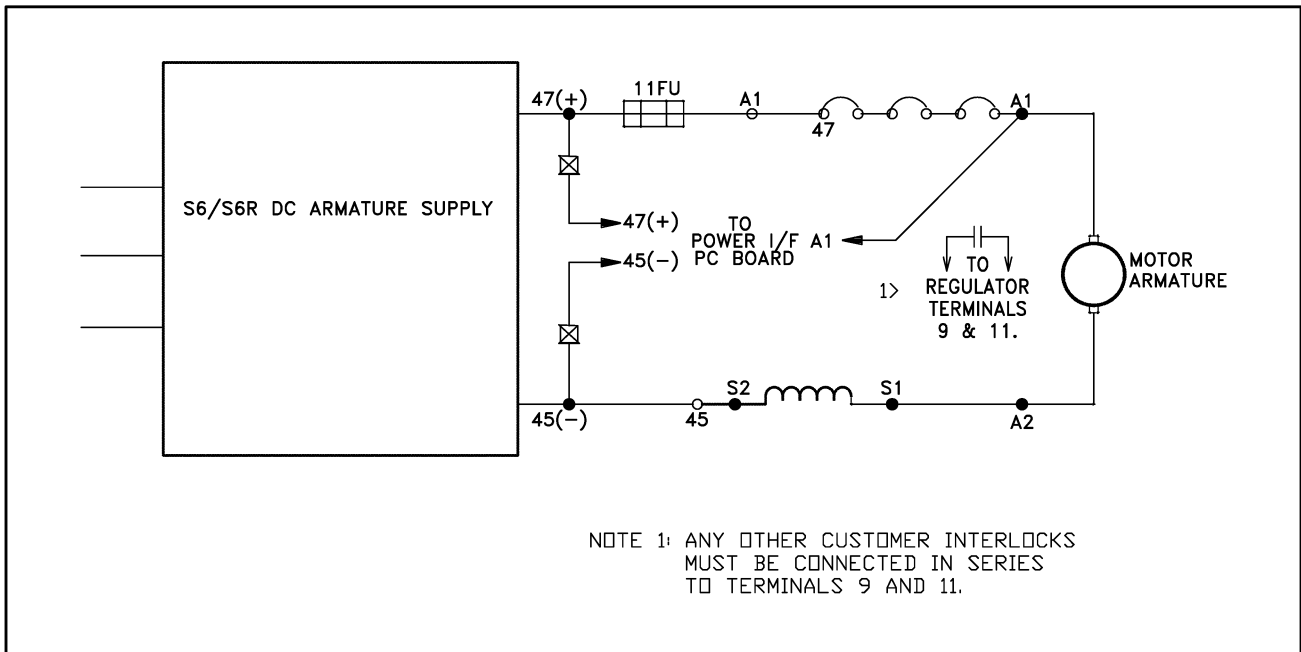

Figure 6 - Inverting Fault Circuit Breaker Connection Diagram
Step 14. Check and verify all wiring per Figure 6 before applying power to the drive. Ensure wires are not in contact with hot components or sharp metal edges.